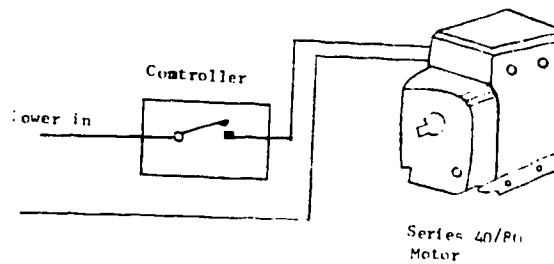

Figure 25
The controller (see Figure 25) contains a sensing element which senses a change in variable (temp, pressure, or humidity). This change in variable will cause the motor to be energized (motor runs) and de-energized (motor stops), by opening and closing contacts located in the controller.
b. Read the following paragraphs, and Figure 25 answer the questions.